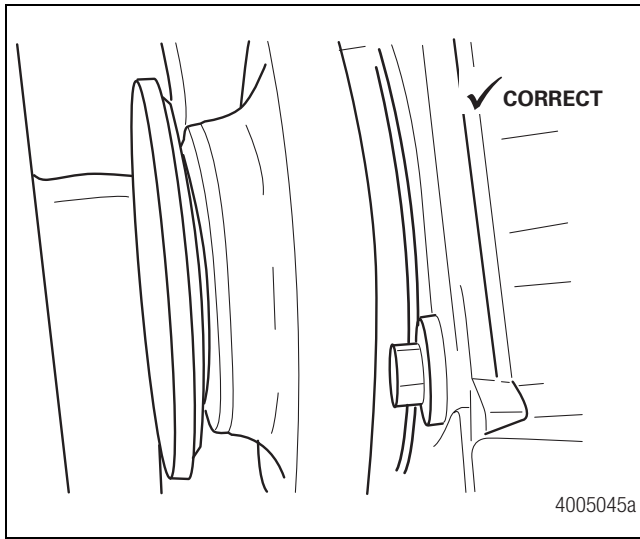
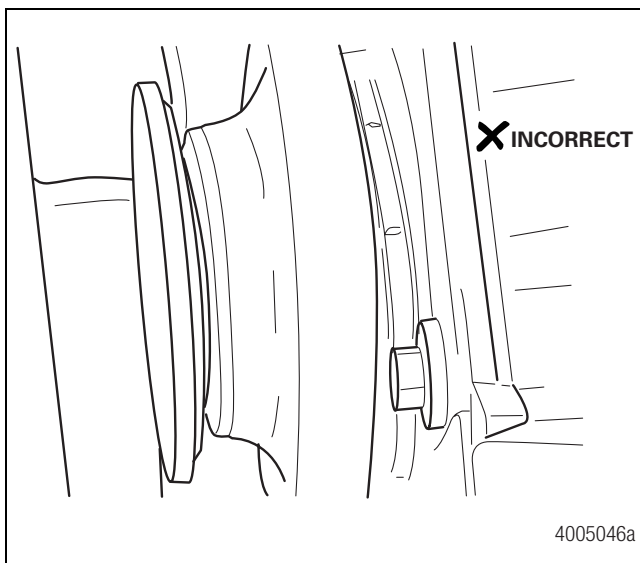

Figure 5.14
Figure 5.15
- Rotate the piston boot and verify that the piston boot beads are correctly seated in the retainer groove. Figure 5.13. The piston boot beads must be correctly seated. Figure 5.14 and Figure 5.15.